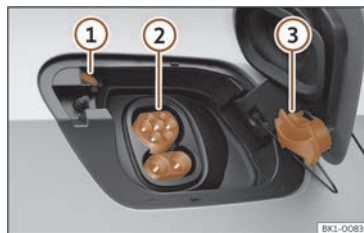

Fig. 49 Behind the battery charging cover on the rear right-hand side: charging socket.
»» Fig. 49
- Remove the protective cap and hang it on the hook»» Fig. 49 ③
- Plug the charging station's charging connector into the charging socket»» Fig. 49 ②.
The LED (charging process indicator) of the charging socket flashes or flashes white »» Fig. 49 ①»» page 73
The charging process display on the charging socket flashes green»» Fig. 49 ①.
- Press the **STOP** function button on the infotainment system's display. The charging process indicator located next to the charging socket lights up white»» Fig. 49 ①. The charging connector is unlocked.
- Place the protective cap on the charging socket's lower connection»» Fig. 49 ③